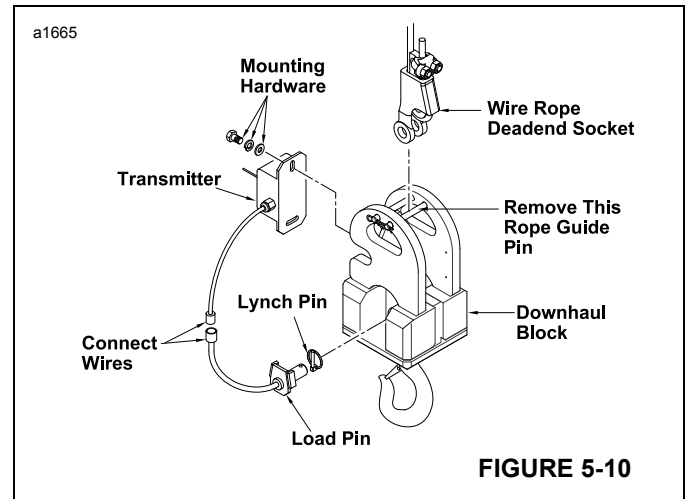

FIGURE 5-10
4. Using the hardware removed when removing the load indicator transmitter, install the transmitter onto the down haul weight (see Figure 5-10).
5. Remove the rope guide pin indicated in Figure 5-10 from the down haul weight.
2. Disconnect the transmitter load pin wire (Figure 5-10) from the transmitter wire.
3. Remove the rope guide pin indicated in Figure 5-10.